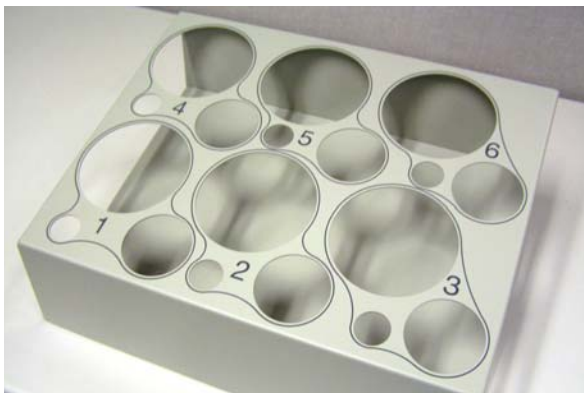

Figure 3-3. Dionex AutoTrace 280 Sample Rack
11. Place the 6-position sample rack (P/N 071333) (see Figure 3-3) to the right of the Dionex AutoTrace 280. (The sample rack must be ordered separately from the Dionex AutoTrace 280.)